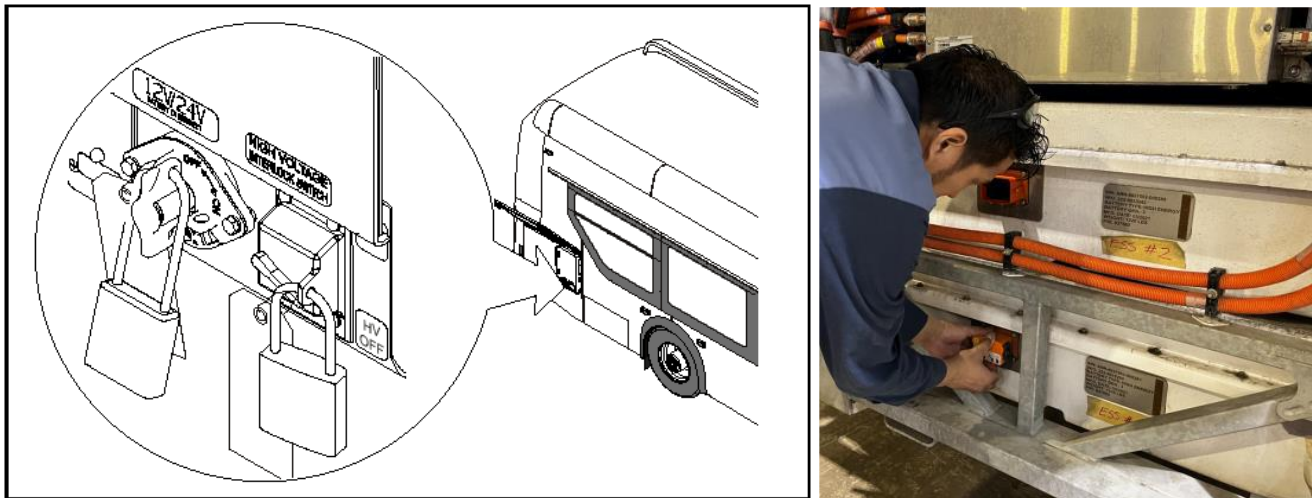

Figure 1: HV and LV Disconnect Switch Location Reference
3. Perform the Lock Out Tag Out and De-Energizing procedures found in the Electrical System Section of the New Flyer Service Manual. Reference Figure 1 below.